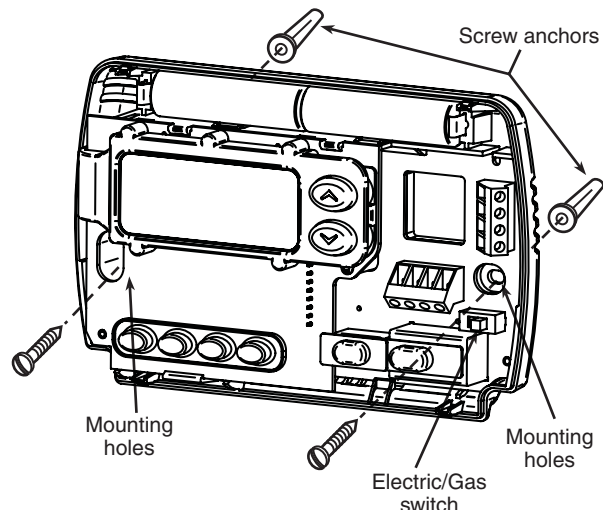

Figure 1. Thermostat Base
This thermostat is configured from the factory to operate a heat/cool, fossil fuel (gas, oil, etc.), forced air system. It is configured correctly for any system that DOES NOT require the thermostat to energize the fan on a call for heat. If your system is an electric heat or heat-pump system that REQUIRES the thermostat to turn on the fan on a call for heat, locate the **ELECTRIC/GAS switch** on the back of the thermostat (see fig. 1) and switch it to the **ELECTRIC** position. This will allow the thermostat to energize the fan immediately on a call for heat. If you are unsure if the heating/cooling system requires the thermostat to control the fan, contact a qualified heating and air conditioning service person.
5. Fasten base loosely to wall, as shown in fig. 1, using two mounting screws. Place a level against bottom of base, adjust until level, and then tighten screws. (Leveling is for appearance only and will not affect thermostat operation.) If you are using existing mounting holes, or if holes drilled are too large and do not allow you to tighten base snugly, use plastic screw anchors to secure subbase.
If "BATT" is displayed, the batteries are low and should be replaced. For best results, replace all batteries with new premium brand alkaline batteries such as Duracell® or Energizer®. To replace batteries, install the batteries along the top of the base (see Fig. 1). The batteries must be installed with the positive (+) end to the left.